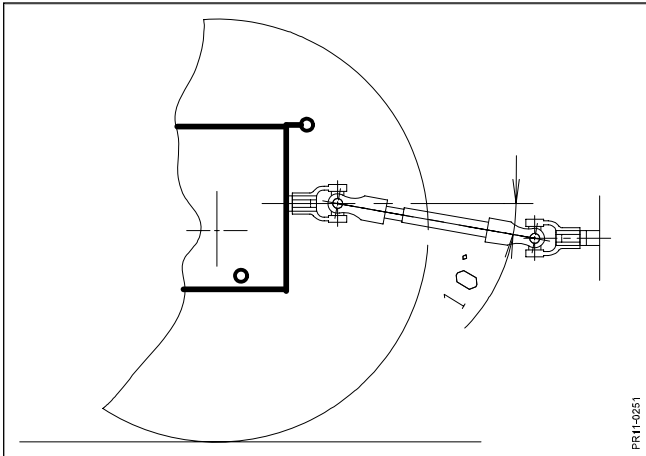

Fig. 2-1
- Fig. 2-1 b) The angle of the PTO shaft must be in the area  $-10^{\circ}$  to  $+25^{\circ}$  compared to horizontal in the working and raised position for transport, respectively.